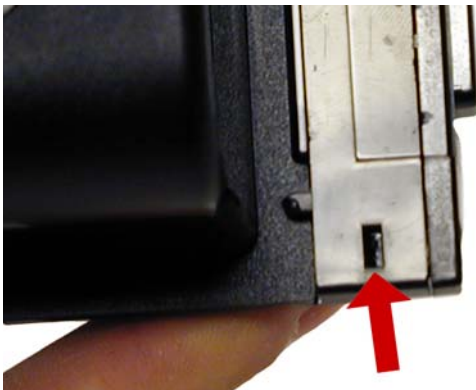

Figure 3
3) On the top and bottom back edge of the end cap, there are two plastic tabs. Press in on the tab and remove the right end cap. See **Figures 3 & 4**